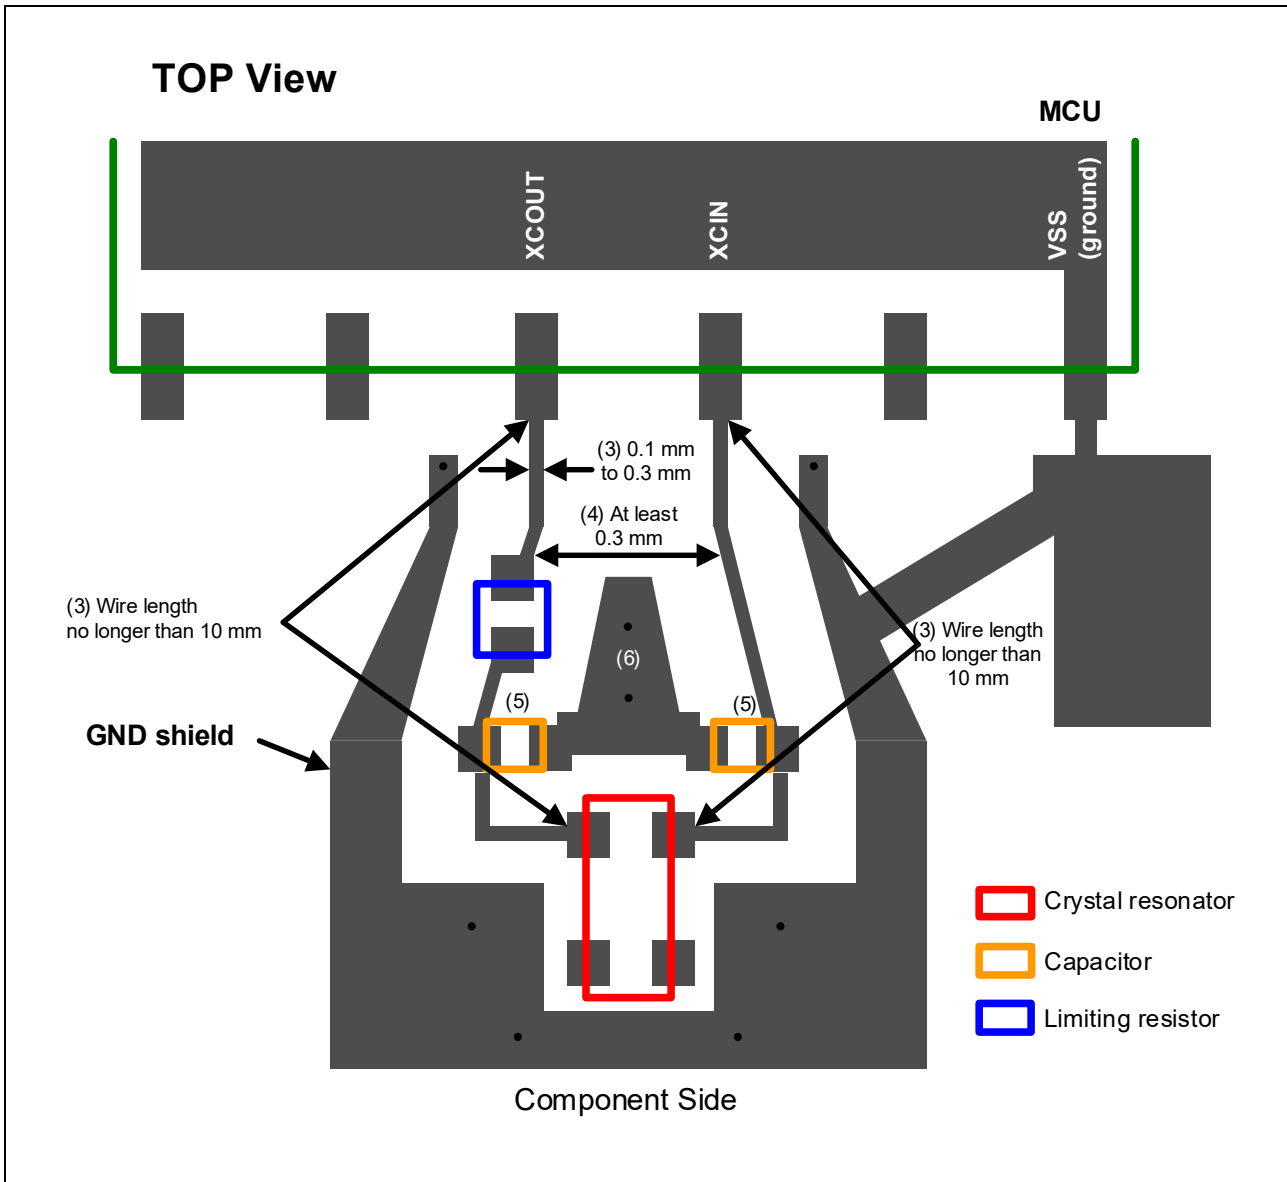
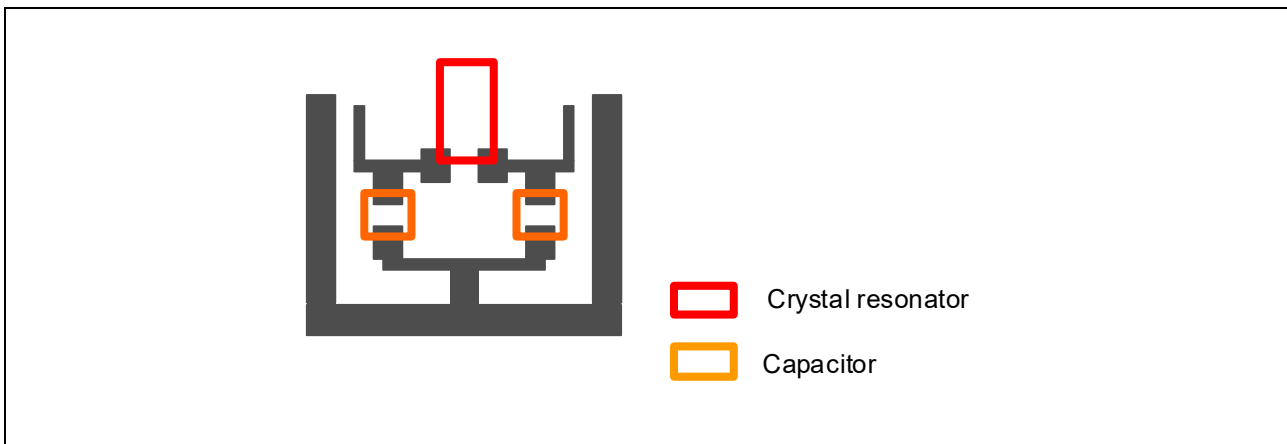

Figure 3.6 Example of Preferred Trace for XCIN and XCOUW Wiring
Figure 3.7 Example of Alternate Trace for XCIN and XCOUW Wiring
(1) to (6) below describe points on wiring for XCIN and XCOOUT. Figure 3.6 shows an example of preferred trace for XCIN and XCOOUT wiring. Figure 3.7 shows an example of alternate trace for XCIN and XCOOUT wiring.
- (1) Do not cross the XCIN and XCOOUT wires with other signal wires.
- (2) Do not add an observation pin to XCIN and XCOOUT.
- (3) Make the XCIN and XCOOUT wire width between 0.1 and 0.3 mm. The wire length from the MCU pins to the crystal resonator pins should be less than 10 mm, or at least as close to 10 mm as possible if longer.
- (4) The wire connected to the XCIN pin and the wire connected to the XCOOUT pin should have as much space between them (at least 0.3 mm) as possible.
- (5) Connect external capacitors as close together as possible. Connect the wire for the capacitors to the ground trace (hereinafter referred to as ground shield) on the component side. For details, see the points on the ground shield. When the capacitors cannot be laid out as shown in Figure 3.6, use the layout shown in Figure 3.7.
- (6) In order to decrease the parasitic capacitance between XCIN and XCOOUT, include a ground trace between the resonator and the MCU.